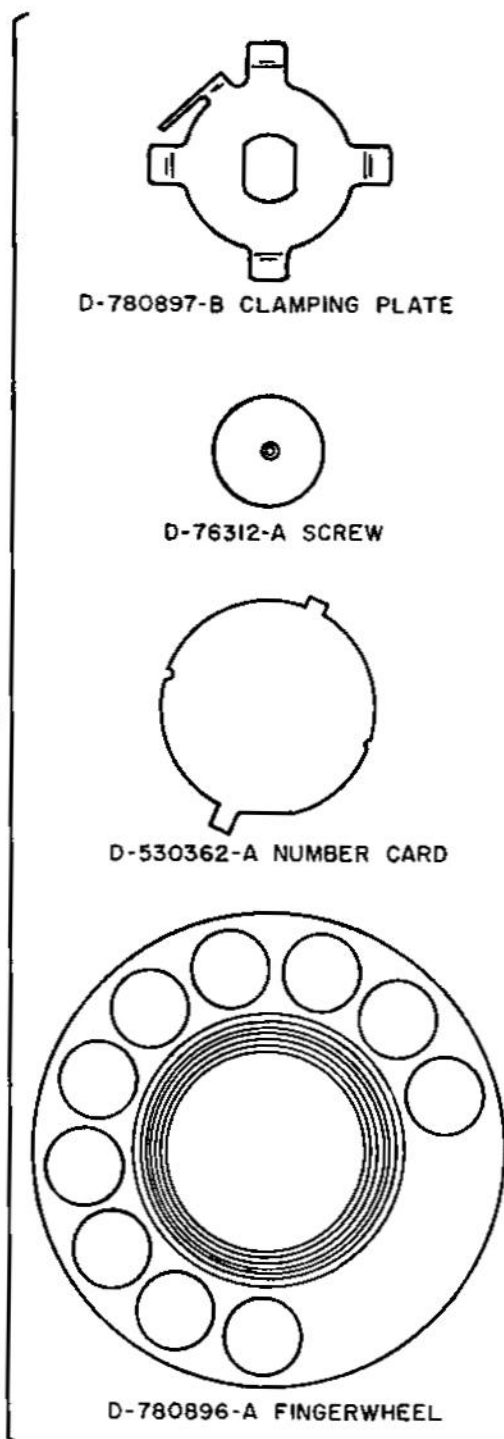

Figure 3. GTE AE D-780896-A Acrylic or Polycarbonate Fingerwheel and Assembly.
3.03 The GTE AE D-780896-A fingerwheel, molded from clear acrylic or polycarbonate, supersedes the D-780697-A and is about 1/8 inch thick at the outer edge. It has no metal escutcheon but an integrally-molded window in the center. On most dials manufactured in May, 1964, or later, a clamping disc is spotwelded to the hub of the shaft, and no additional parts are required to mount the fingerwheel. A number card smaller than those previously used is required for identification. Two additional parts are included along with the D-780896-A acrylic or polycarbonate fingerwheel to complete the H-885503-1 Dial Fingerwheel Kit (Figure 3).